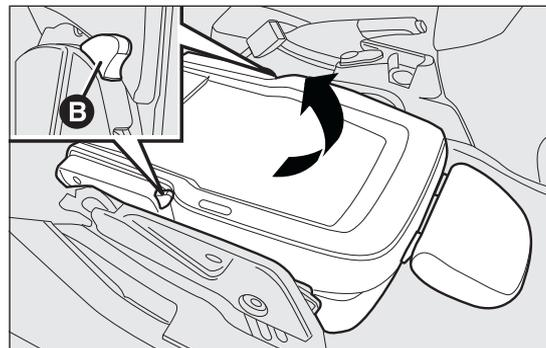

fig. 20
- operate levers B fig. 20 and further lift the seat upwards.